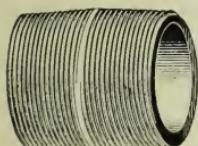

FIG. 24
**36.** Fig. 24 shows a right-hand **close nipple** having a right-hand taper thread cut on each end. The nipple is short enough to allow the fittings to come close together, whence the name.